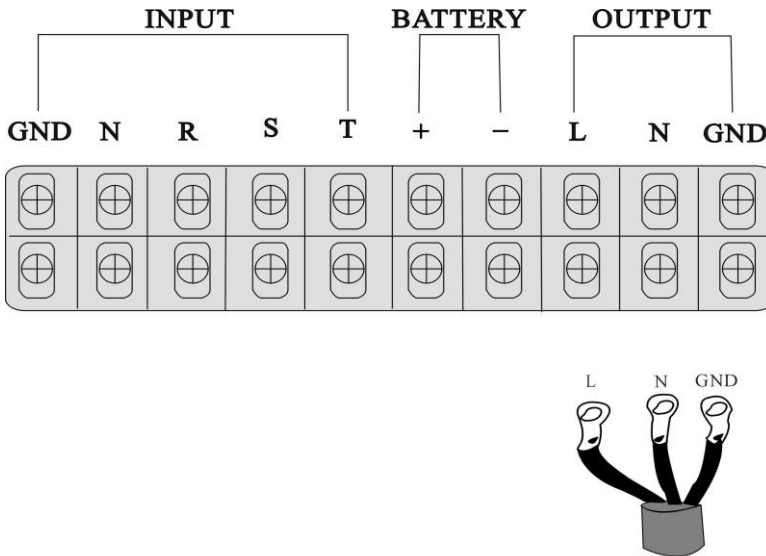

Figure 13
7. AC OUTPUT connect wiring position(Figure 13)